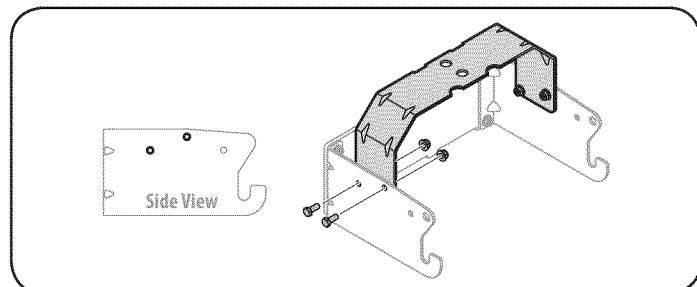

Figure 5
- **For Models 247.28980, 247.28672, 247.28888, 247.28880:** Mount the hitch support using the holes closest to the universal mountain bracket. See Fig. 5.